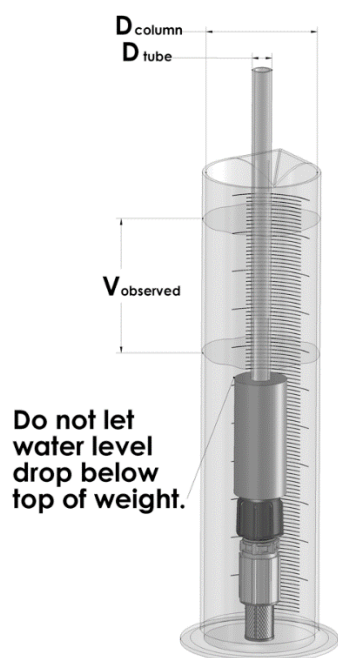

Figure 20: Graduated Cylinder
1. Prepare a device for accurately measuring volume such as a graduated cylinder or a scale sensitive to 1 gram. If using a graduated cylinder, make sure the fluid surface area remains constant during calibration, e.g., the fluid remains above the foot valve weight as shown in Figure 20.
- e. Take the final reading of fluid volume in mL. If using a scale, divide the difference between beginning and ending weights in grams by the specific gravity of the chemical solution being pumped. If using a graduated cylinder with a foot valve inserted (Figure 20), the readings will need to be adjusted to compensate for the presence of the suction tubing using the following formula: